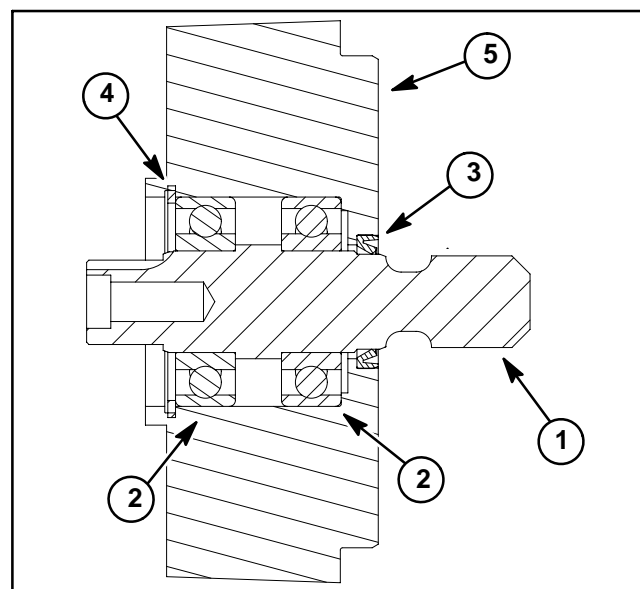

Figure 14
2. Remove the flange nut (item 11) that secures driven pulley (item 12) to groomer shaft. Remove driven pulley from shaft. Locate and retrieve square key (item 28) that locates pulley on shaft.
3. Remove retaining ring (item 13).
4. Remove flange head screw (item 4) that secures drive pulley. Pull drive pulley from cutting unit. Locate and retrieve square key (item 22) from drive shaft.
5. Remove two (2) flange head screws (item 4) that secure retaining plate (item 9) and groomer plate (item 14) to housing.
6. Remove retaining plate and groomer plate from cutting unit. Locate and retrieve two (2) spacers (item 10) from slots in groomer plate.
7. Remove two (2) flange head screws (item 20) that secure drive housing to cutting unit side plate.
8. Slide drive housing assembly from cutting unit. Locate and retrieve o-ring (item 25).
9. Remove shaft and bearings from housing (Fig. 14):
- A. Remove retaining ring (item 18) from housing.
- D. Remove oil seal (item 24) from housing.
1. Install shaft and bearings into housing (Fig. 14):
2. Position o-ring (item 25) on housing assembly. Slide housing to cutting unit making sure to align drive shaft splines with cutting reel. Secure housing to cutting unit with two (2) flange head screws (item 20).
3. Position retaining plate and groomer plate to cutting unit. Place two (2) spacers (item 10) in groomer plate slots.
4. Secure retaining plate (item 9) and groomer plate (item 14) to housing with two (2) flange head screws (item 4).
5. Place square key (item 22) in drive shaft slot and slide drive pulley onto shaft.
6. Apply Loctite #242 (or equivalent) to threads of flange head screw (item 4). Secure drive pulley with flange head screw. Torque screw from 15 to 19 ft lbs (20.3 to 25.7 N-m).